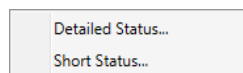

Figure 3-51 – Toll Lane/Toll Rate Context Menu
- **Toll Lane Status / Toll Rate DMS Context Menu** (see Figure 3-51): This context menu provides the operator with options for Toll Lane Status Signs and Toll Rate Signs by selecting an icon on the map.